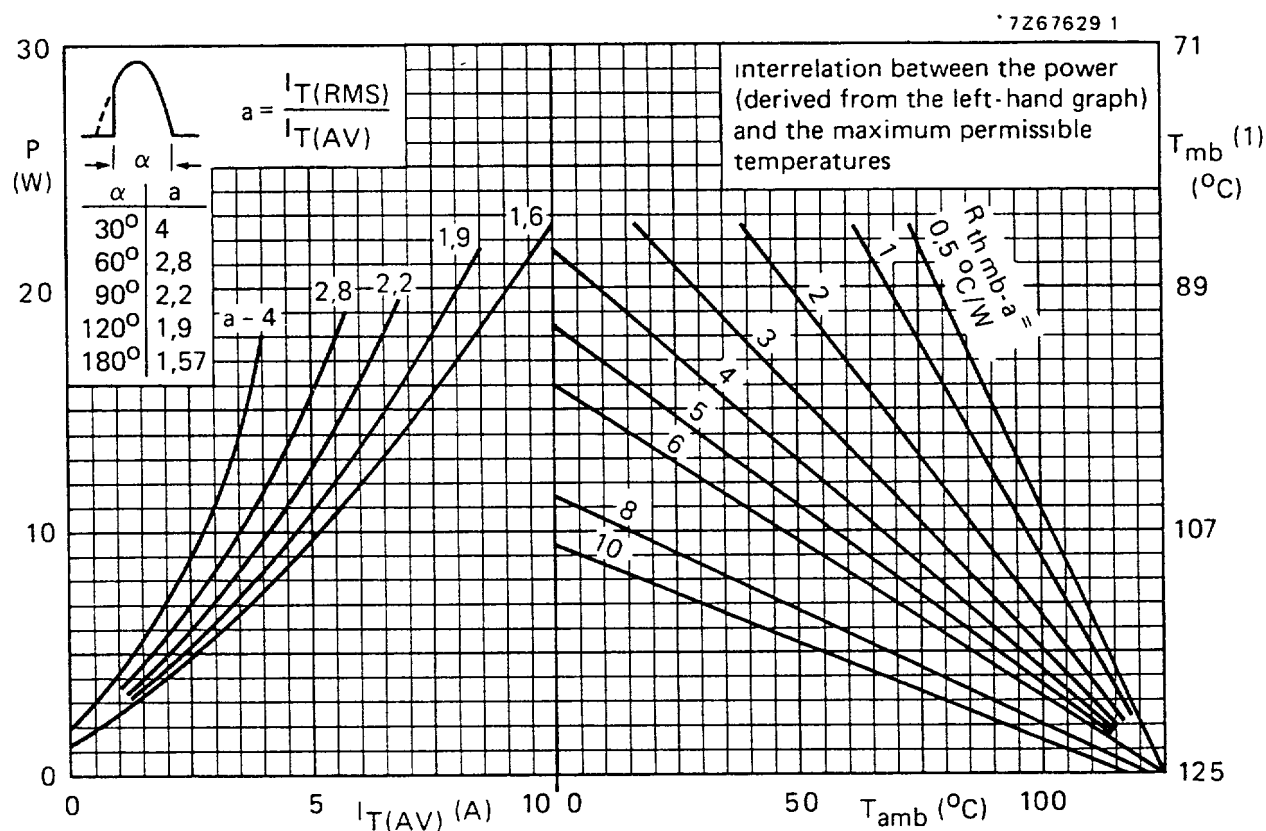

Fig. 3 (1) T_{mb} -scale is for comparison purposes only and is correct only for $R_{th mb-a} \leq 6^{\circ}C/W$.
* To ensure thermal stability: $R_{th j-a} < 4$ °C/W (d.c. blocking) or < 8 °C/W (a.c.). For smaller heat-sinks $T_{j max}$ should be derated. For a.c. see Fig. 3.